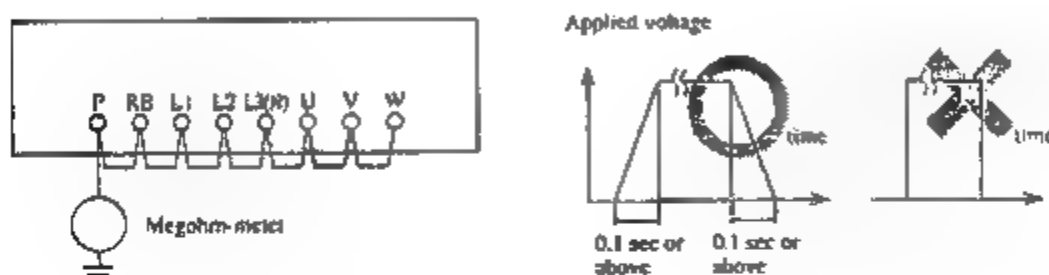

Figure 7.4 Insulation Resistance Tests and Withstand Voltage Tests
Make these measurements and tests by short-circuiting the terminals as shown in Figure 7-4, and by following the conditions described.
- Do not conduct withstand voltage tests for terminals other than those indicated in Figure 7-4.